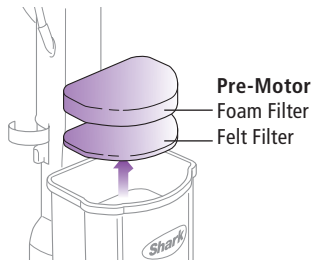

Fig. 18
- 2 Pull the 2 filters out from the top of the motor base. **(Fig. 18)**